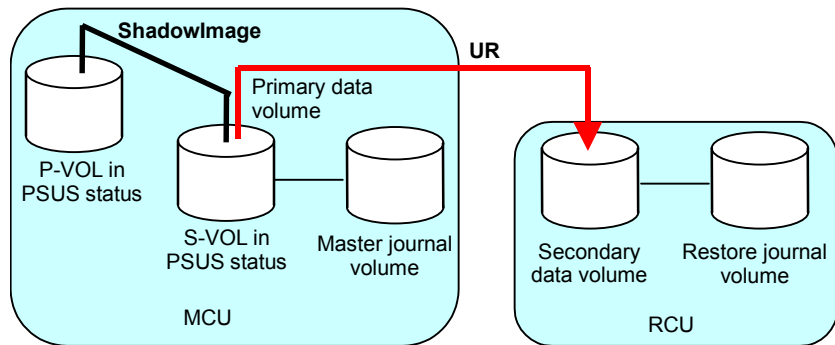

Figure 3-17 Restoring a ShadowImage P-VOL - Step 9
9. Execute the CCI **pairresync** command on the UR pair to resynchronize the pair (see Figure 3-17).